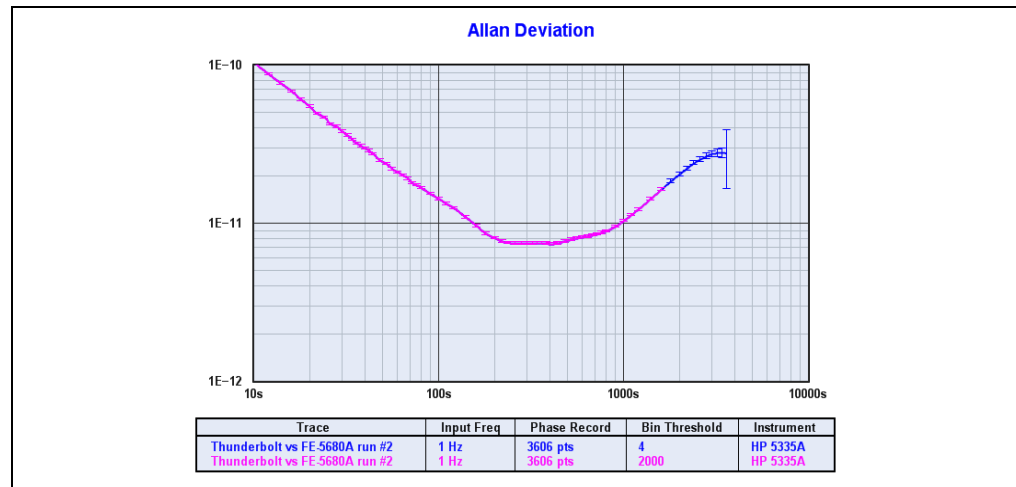

FIGURE 2-12: *Bin Threshold Adjustment.*
- Fewer samples are available to contribute to bins near the right end of an xDEV trace. As a result, measurement confidence decreases at longer tau intervals. To increase the minimum number of samples that must contribute to a given xDEV bin in order for that bin to be displayed, you can change the Bin Threshold parameter in the acquisition dialog, or use Edit>Trace Properties <e> to specify a new value for the same field at any time after acquisition. However, because TimeLab employs overlapped xDEV algorithms, small changes to Bin Threshold may have no effect. Once the phase record grows long enough to provide data at a given tau interval, each additional sample adds another data point to the corresponding xDEV bin. If this is an issue, try setting the Bin Threshold to a large fraction of the total phase record size. The idea is to force TimeLab to render the xDEV trace as if much less data were available. In Figure 2-12, two copies of the same 3600-sample .TIM file have been loaded. The blue trace was rendered with the default Bin Threshold of 4, while the shorter magenta trace was rendered with Bin Threshold set to 2000. Enabling Trace>Show xDEV Error Bars <Ctrl-e> reveals the blue trace's low confidence at its longest tau.